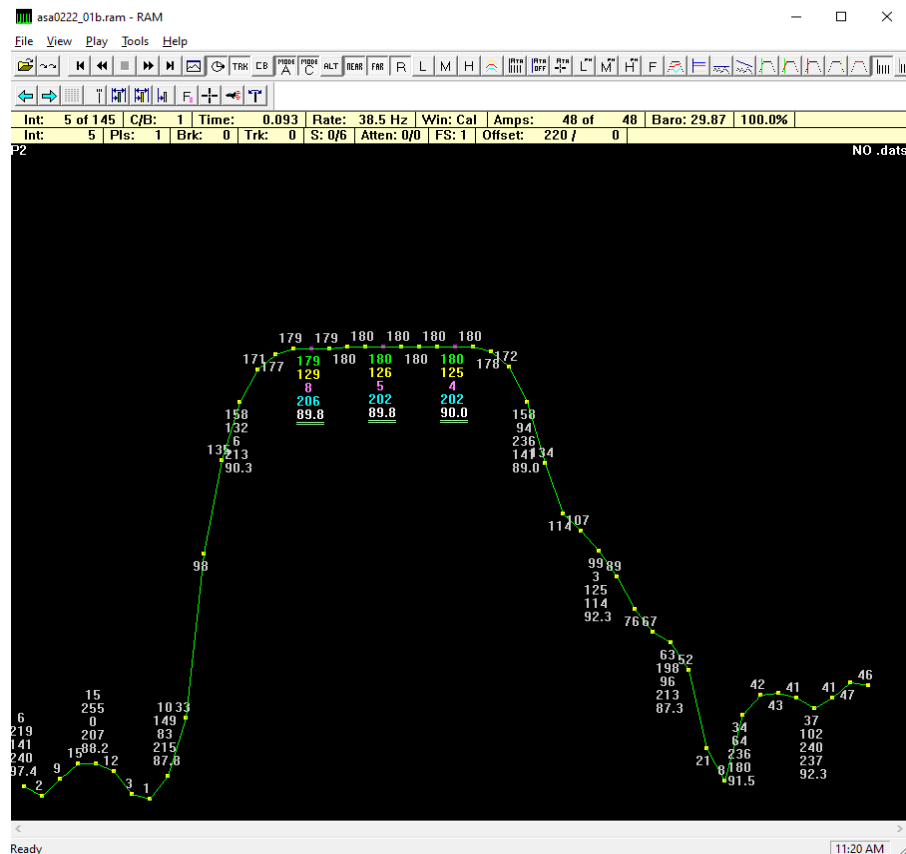

Figure 6-4. Cal/BIT Centered in Window
- n. Examine the Reference and Medium pulses to ensure TOA bias changes have taken effect. A centered pulse is shown in Figure 6-4.